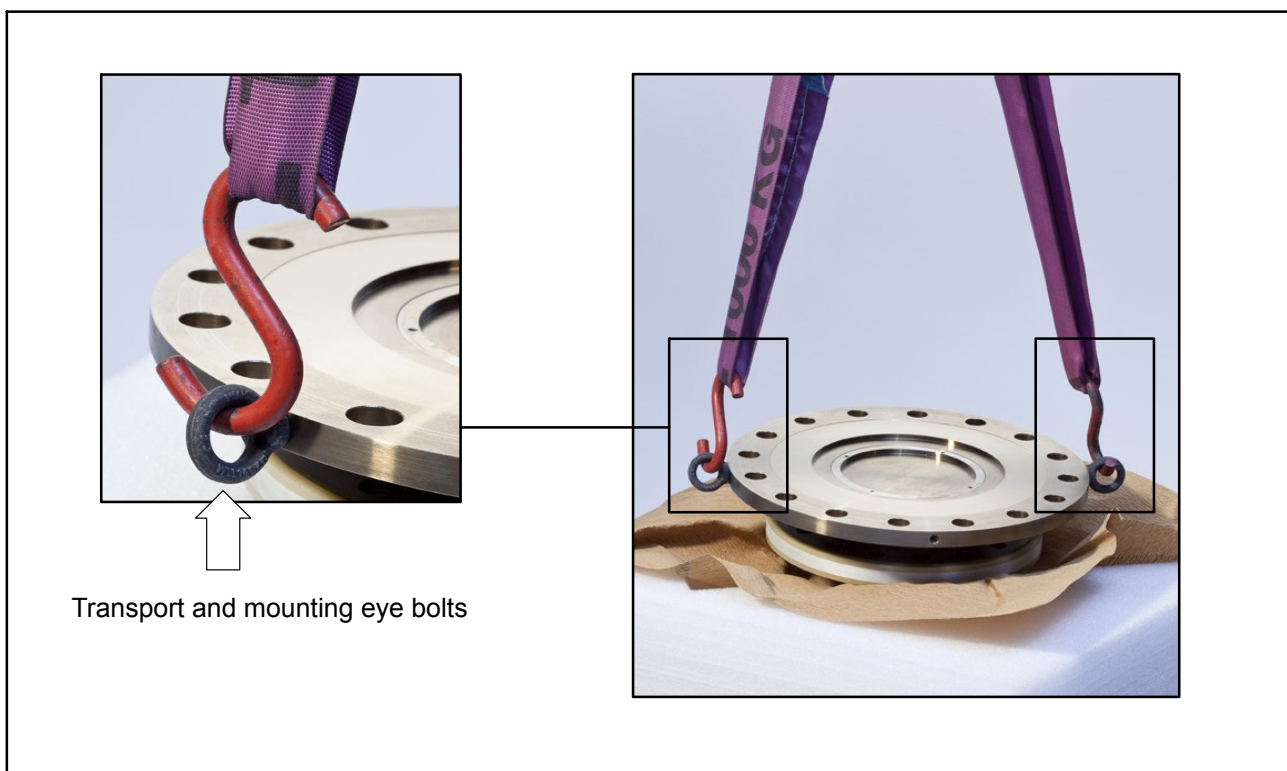

Fig 4.1: Transport and mounting eye bolts on the rotor
Two eye bolts are screwed into the rotor as transport and mounting aids. Hook the lifting equipment to these eye bolts as this ensures that the rotor is lifted horizontally out of the packaging (see Fig 4.1).
1. Lift the rotor out of the packaging, rotate horizontally by 180°, so that flange B is pointing upwards (see Fig 4.1).
6. Carefully lift up the rotor and move it to the mounting position (see Fig 4.1).